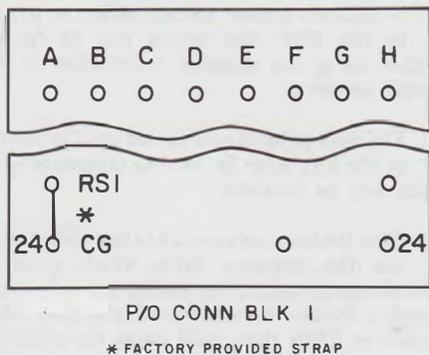

Fig. 60—Removal of RS1 to CG Strap for TOUCH-TONE Intercom
4.97 Remove the RS1 to CG strap in column A of connecting block 1 when any TOUCH-TONE adapter KTU is installed (Fig. 60).